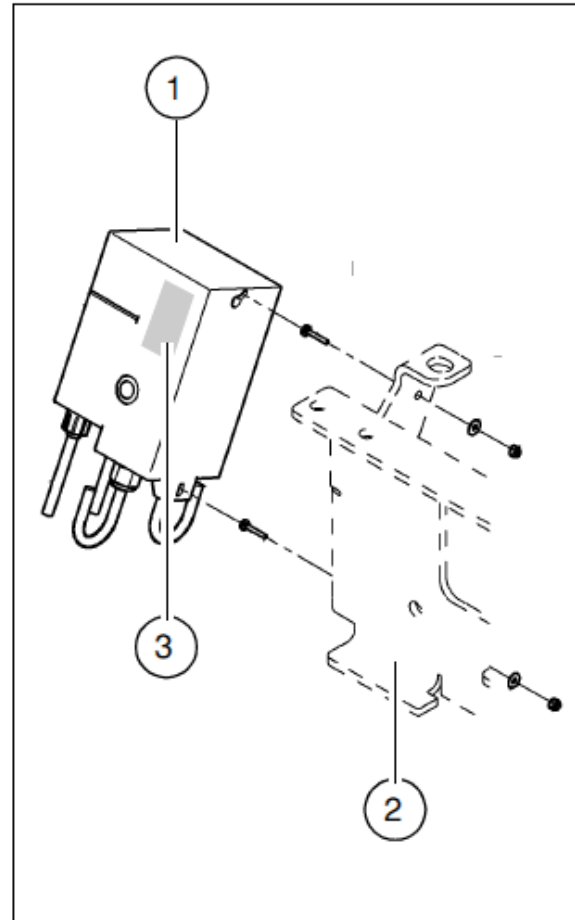

Fig. 2
1. Assemble the dosing pump (Fig. 2/1) on the left-hand holder (Fig. 2/2) of the deflector.
2. Clean the surface and attach the fast emptying label (Fig. 2/3).